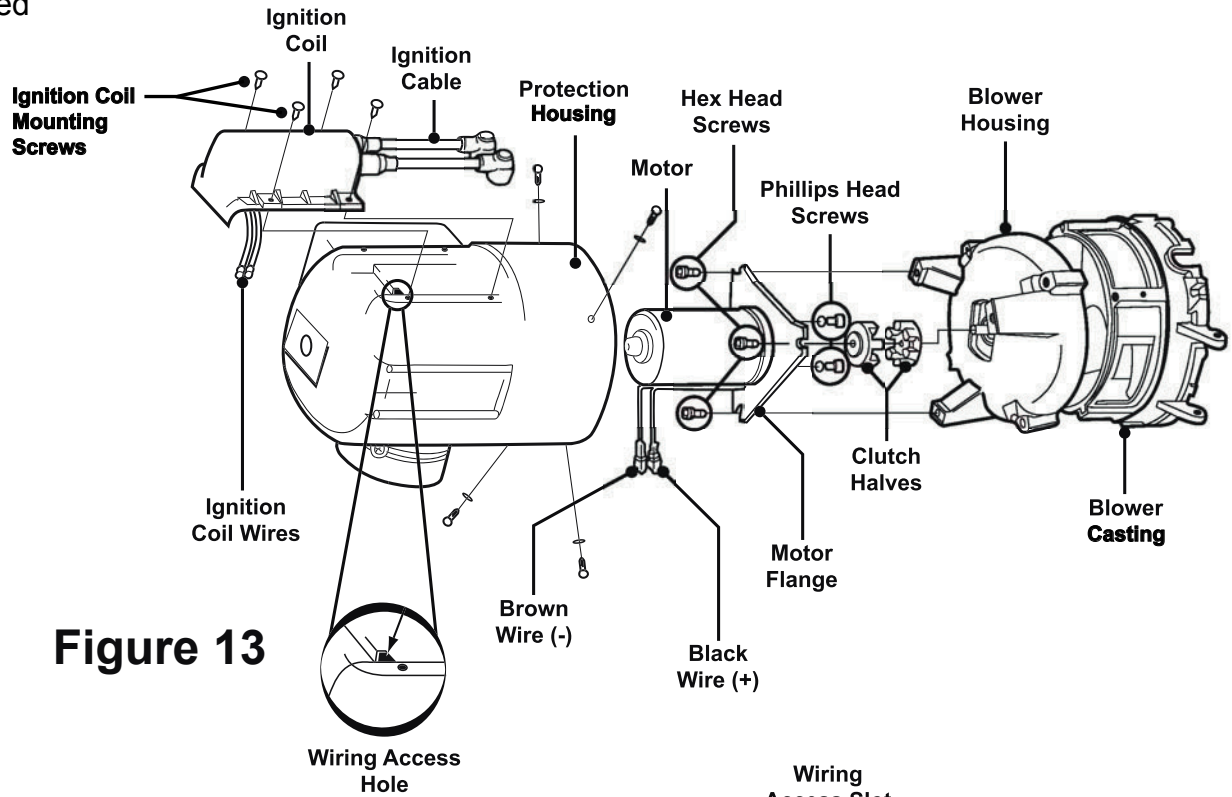
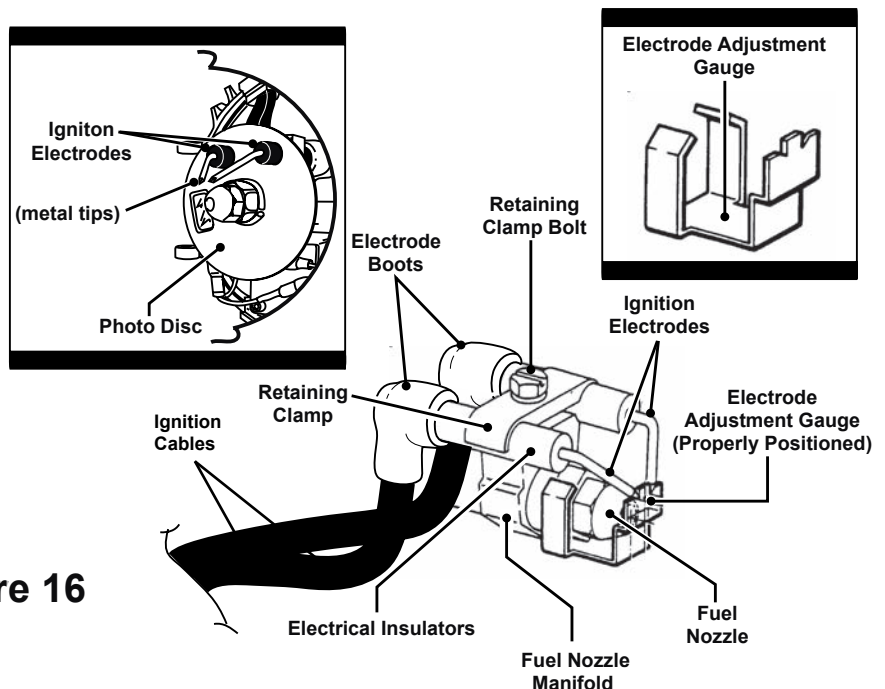
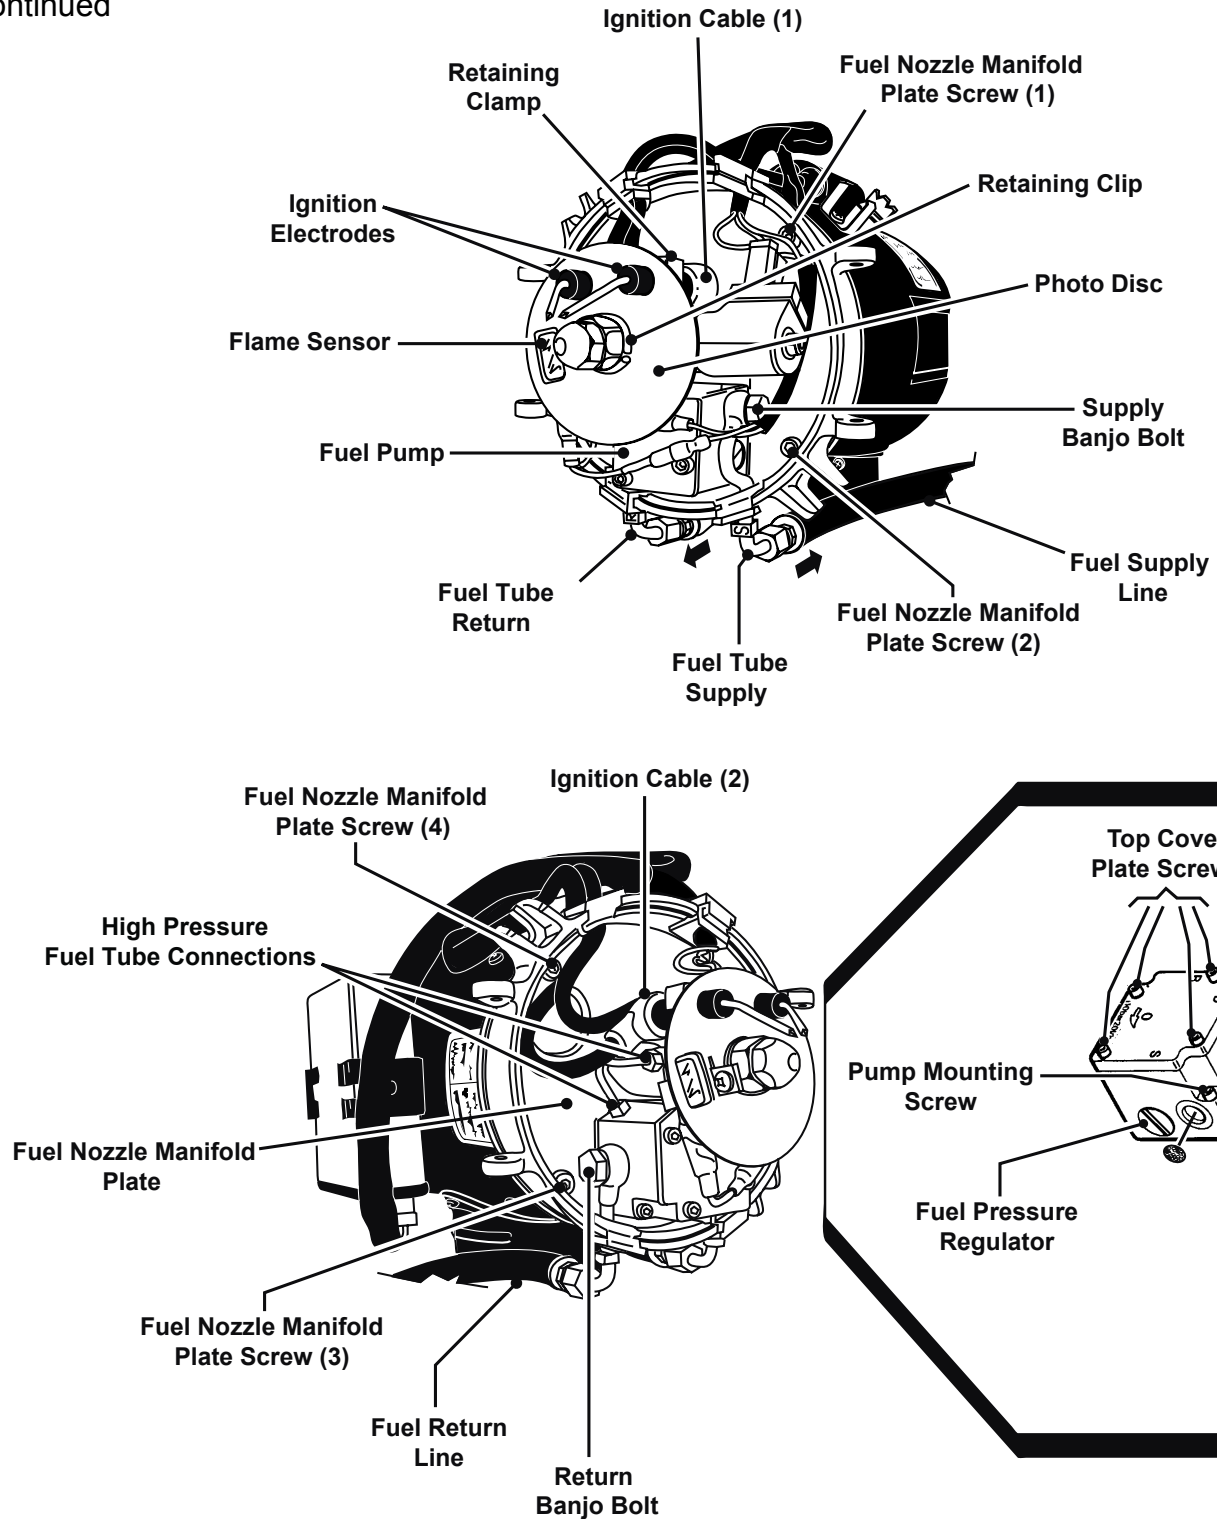

Figure 13
Figure 16
Figure 19
RPM Test: Disconnect the *Ignition Cables* from the *Ignition Electrodes*; reference Figure 16. Remove the four *Ignition Coil Screws*, which secure the *Ignition Coil* to the *Protection Housing*; reference Figure 13. Lift the *Ignition Coil* and disconnect its *wires* from the C-Plug Harness *wires* prior to removing. Remove the *Protection Housing* from the *Diesel-Burner*, allowing the *Motor and Clutch Halves* to be exposed; reference Figures 12 and 13. Place a few wraps of black electrical tape around the *Clutch Halves*, then, place a small piece of reflective tape over the black tape as illustrated in Figure 12. Disconnect the Motor's *Black (+)* and *Brown (-)* wires from the C-Plug Harnesses' *Black (+)* and *Brown (-)* wires; reference Figures 12 and 13. Connect the Motor's *wires* directly to a 12 Volt-DC power supply; reference Figure 12. Turn the power supply **ON** and use a photo-tachometer to test for a proper RPM reading; reference Figure 12. At approximately 12.5 Volts-DC, the RPM reading should be 4500 RPMs (+/- 300 RPMs). If the Motor's RPM reading is not within the above specs, the *Motor* must be replaced; reference the *Motor's Replacement Procedure* in this section. Reference Section 10 for spare part number information.
1. Remove the four *Ignition Coil Mounting Screws*, which secure the *Ignition Coil* to the *Protection Housing*; reference Figure 13. Lift the *Ignition Coil* to disconnect its wires from the C-Plug Harness wires prior to removing. Remove the *Protection Housing* from the *Diesel-Burner* to expose the *Motor* and *Clutch Halves*; reference Figures 13 and 14.
2. Remove the three *Hex Head Screws*, which secure the *Motor* and flange assembly to the *Blower Housing*; reference Figure 13. Remove the *Motor* and flange assembly along with the *Clutch Halves*; reference Figures 13 and 14. Disconnect the *Motor's Black (+)* and *Brown (-)* wires from the C-Plug Harness' wires; reference Figure 13.
3. Detach the *Motor* from the *Motor Flange* by removing the two *Phillips Head Screws*, which fasten the two parts together; reference Figure 13.
5. Connect the *Black (+)* and *Brown (-)* wires of the new *Motor* to the C-Plug Harness' *Black (+)* and *Brown (-)* wires; reference Figure 13. Feed the C-Plug Harness' *Yellow* and *Brown* wires back through the *Wiring Access Hole* in the *Protection Housing*; reference Figure 13.
6. Reinstall the *Protection Housing*. Reconnect the *Black (+)* and *Brown (-)* wires of the *Ignition Coil* to the C-Plug Harness' *Yellow (+)* and *Brown (-)* wires; reference Figure 24. Reinstall the *Ignition Coil* and secure to the *Protection Housing* with the four *Ignition Coil Mounting Screws*; reference Figure 13.
Cleaning Tips/Maintenance: Polish away any carbon deposits, which may have baked onto the metal tips of the *Ignition Electrodes* with a Scotch Brite® pad (or similar); reference Figure 16. If the Ignition Electrode's *electrical insulator* (reference Figure 16) is cracked and/or damaged, the *Ignition Electrode* must be replaced; reference the Ignition Electrode "Replacement Procedure" in this section. Reference Section 10 for spare parts information.
1. Slightly loosen the *Retaining Clamp Bolt*; reference Figure 16.
into the appropriate notches of the *Electrode Adjustment Gauge* as illustrated in Figure 16.
1. Disconnect the *Ignition Cables* from the *Ignition Electrodes* and slightly loosen the *Retaining Clamp Bolt* just enough to allow the *Ignition Electrodes* to be removed; reference Figure 16.
3. Perform Steps 2 through 4 of this section's "Adjustment Procedure" to complete the *Ignition Electrode* installation. Once Steps 2 through 4 have been performed, reconnect the *Ignition Cables* to the *Ignition Electrodes*; reference Figure 16.
Component Test: Remove both *Ignition Cables* from the *Ignition Electrodes*; reference Figure 16.
WARNING: Failure to remove the *Ignition Cables/Electrode Boots* from the *Ignition Electrodes* (reference Figure 16), will result in a **HIGH VOLTAGE** shock and/or a fire. Also, be sure to place a piece of electrical tape on the end of each Electrode Boot.
1. Disconnect the *Ignition Cables* from the *Ignition Electrodes* and loosen the *Retaining Clamp Bolt*; reference Figure 16.
2. Remove the *Retaining Clip*, which secures the *Photo Disc* in place. Gently lift the *Photo Disc* (with *Flame Sensor* attached) so that it releases from the *Fuel Nozzle Manifold* and the *Ignition Electrodes*; reference Figures 16 and 19.
4. Remove the four *Fuel Nozzle Manifold Plate Screws*, which secure the *Fuel Nozzle Manifold Plate* in place; reference Figure 19. Remove the *Fuel Nozzle Manifold Plate* by pulling on the *Fuel Nozzle Manifold* until the plate releases from the cast-aluminum *Blower Casting*; reference Figures 13 and 19.
1. Check all *Fuel Connections* for tightness (i.e., *Banjo Bolts*, *High Pressure Fuel Pipe Connections*); reference Figure 19.
WARNING: A spark will appear across the *Ignition Electrodes* (reference Figure 16) for a brief moment after the *Diesel-Burner* has been activated. **DO NOT** attempt to make any fuel pressure adjustments until the spark has disappeared. Failure to do so may result in serious bodily injury (i.e., an electrical shock).
1. Locate and disconnect the C-Plug Harness wires, which connect to the *Flame Sensor* and the *Fuel Solenoid Valve*; reference Figures 3, 15, and 18. Also, disconnect the *Ignition Cables* from the *Ignition Electrodes*; reference Figures 16 and 19.
2. Remove the *Retaining Clip*, which secures the *Photo Disc* in place; reference Figure 19. Gently lift the *Photo Disc* (with *Flame Sensor* attached) so that it releases from the *Fuel Nozzle Manifold* and the *Ignition Electrodes*; reference Figures 16 and 19.
3. Clamp off both the *Fuel Supply Line* and *Return Line* from the *Diesel-Burner Head*; reference Figures 19 and 22. Loosen the *Supply* and *Return Banjo Bolts* to remove both Fuel Tubes (with the fuel lines attached) from the *Fuel Pump*; reference Figures 19 and 22. Also, disconnect the *High Pressure Fuel Tube* from both the *Fuel Pump* and the *Fuel Nozzle Manifold*; reference Figures 19 and 22. Discard the *High Pressure Fuel Tube*, *Gasket Rings*, *Banjo Bolts*, and *Grommets*, as these replacements are provided in the new Fuel Pump Kit. Reference Section 10 for spare parts information.
and secure in place with the four *Fuel Nozzle Manifold Plate Screws*. Install the new *Grommets* on both *Fuel Tubes* (Supply and Return) and secure the tubes to the *Fuel Pump* with the new *Banjo Bolts* and *Gasket Rings*; reference Figures 19 and 22.
8. Reconnect the C-Plug Harness' *Violet (+)* and *Brown (-)* wires to the Fuel Solenoid's (+) and (-) *Electrical Terminals*; reference Figure 18. Insert both *Ignition Cables* into the new rubber *Grommet* and slide into the appropriate notch on the *Blower Casting*; reference Figure 19. Reconnect the *Ignition Cables* to the *Ignition Electrodes*, then remove the fuel line clamps from both the *Fuel Return Line* and the *Fuel Supply Line*; reference Figure 19.
9. Reinstall the *Photo Disc* and secure it in place with the *Retaining Clip*; reference Figure 19. Reconnect the Flame Sensor's *Green* wire to the *Green* C-Plug Harness wire and the *Blue* wire to the C-Plug Harness' *Violet* wire; reference Figure 15.
1. Clamp off and remove the *Fuel Supply Line* and *Fuel Return Line* from the *Diesel-Burner Head*; reference Figures 19 and 22.
3. Remove the four *Fuel Nozzle Manifold Plate Screws*, which secure the *Fuel Nozzle Manifold Plate* in place; reference Figure 19. Remove the *Fuel Nozzle Manifold Plate* by pulling on the *Fuel Nozzle Manifold* until the plate releases from the cast-aluminum *Blower Casting*; reference Figures 13, 16, and 19.